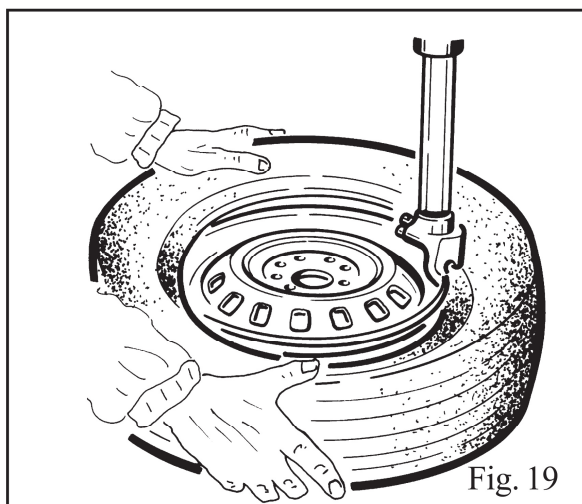

Fig. 19
- Keeping the tire bead pressed down into the wheel rim channel with your hands, press down on the pedal (Z) to rotate the turntable clockwise. Continue until you have covered the entire circumference of the wheel rim (Fig. 19).